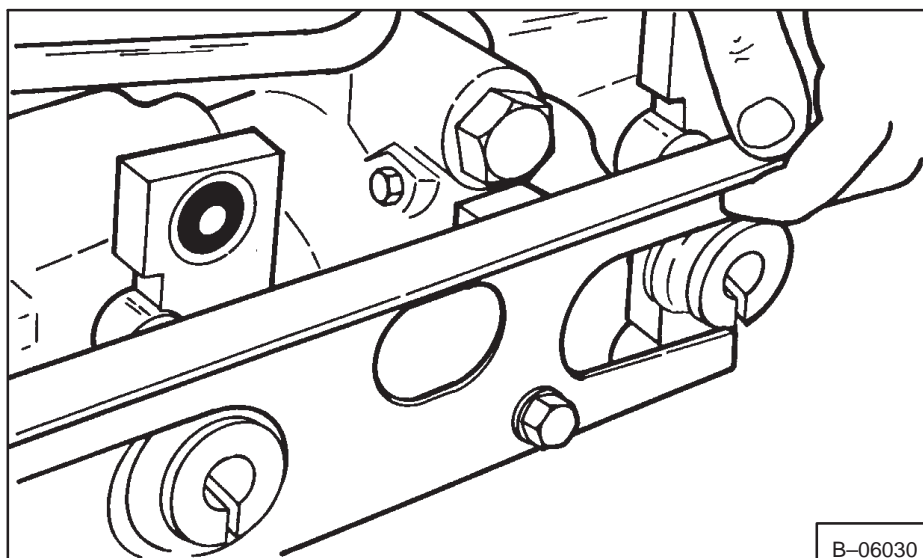

Fig. 3-22 Removing The Centering Bar
9. Slide the centering bar forward and remove it from the pump (Fig. 3-22).